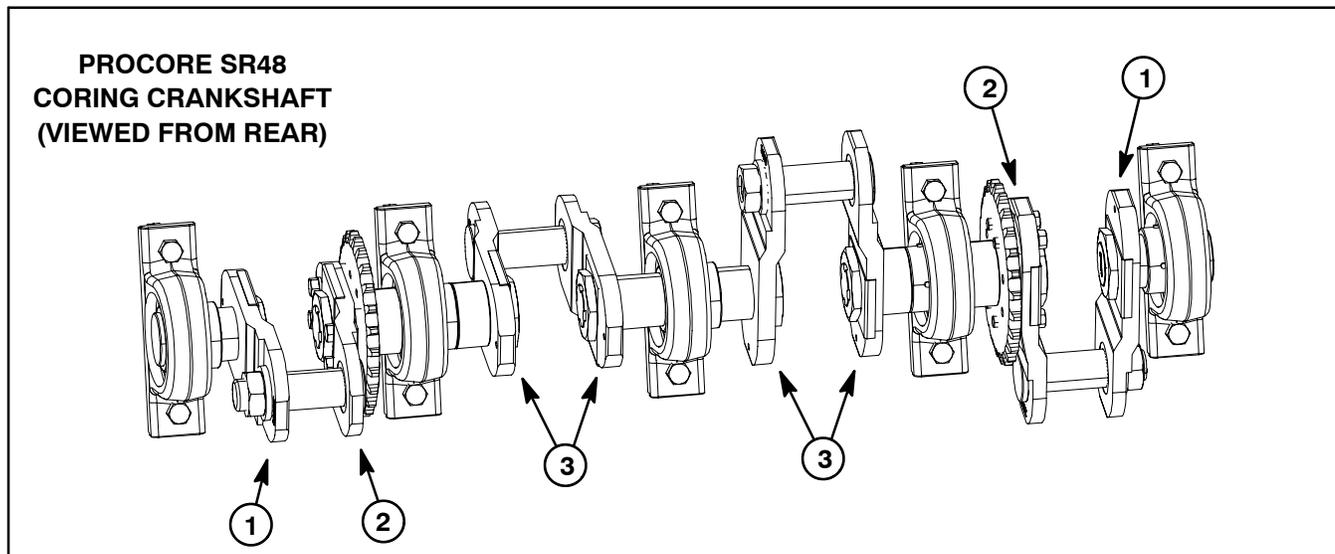

Figure 10
The ProCore SR48 coring crankshaft uses three (3) different crank arms. For identification purposes, the crank arms and crankshaft timing are shown in Figure 10. Refer to your Parts Catalog to identify part numbers for crankshaft components.